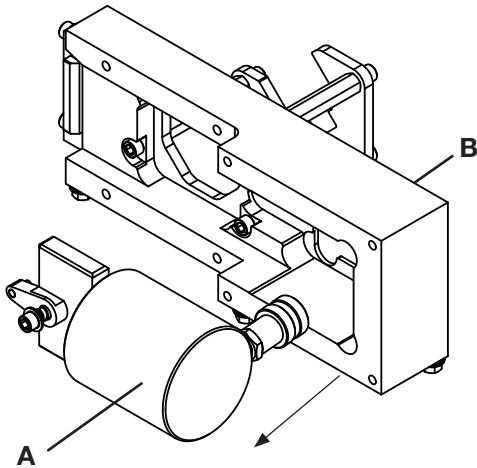

Figure 4
4. Remove the Hydraulic Cylinder (A) from the Cassette Unit (B) as shown in Fig. 4.
7. Remove swing arm by unscrewing flange screw (4).